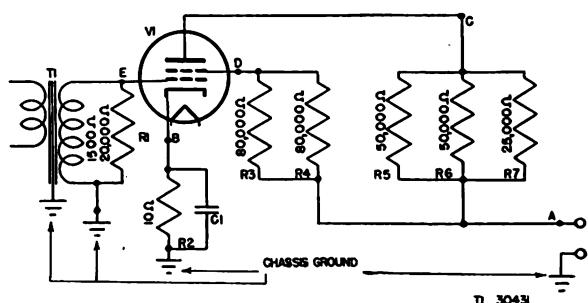

Figure 62. Resistance measurements functional schematic.
(5) OTHER UNITS IN PARALLEL. The combined or resultant resistance of a parallel circuit containing coils, chokes, or transformer windings is determined by exactly the same methods used to determine the resistance of resistors. The d-c resistance of the winding is considered in the same manner as the rated resistance of any resistor.
(6) PRACTICAL EXAMPLES OF PARALLEL CIRCUITS. Figure 62 shows a single-amplifier stage  $V_1$  with parallel connection of parts in the screen grid, plate, and grid circuits. The cathode circuit consists of a simple series connection.
(c) *Grid Circuit.* Figure 62 shows a grid circuit comprised of a resistor and a transformer secondary winding. The measurement is made between points E and ground (the chassis). An ohmmeter is used to make this and all subsequent measurements.
(d) *Cathode Circuit.* The circuit in figure 62 shows a simple series circuit between the cathode (B) and ground. The measured resistance should be the same as that of resistor R2, or 10 ohms. If capacitor C1 (cathode bypass capacitor) were leaky, a parallel circuit would be formed, because the leaky capacitor would offer a path for the flow of direct current. In this case, the lower resultant-resistance measurement would reveal the defective capacitor.